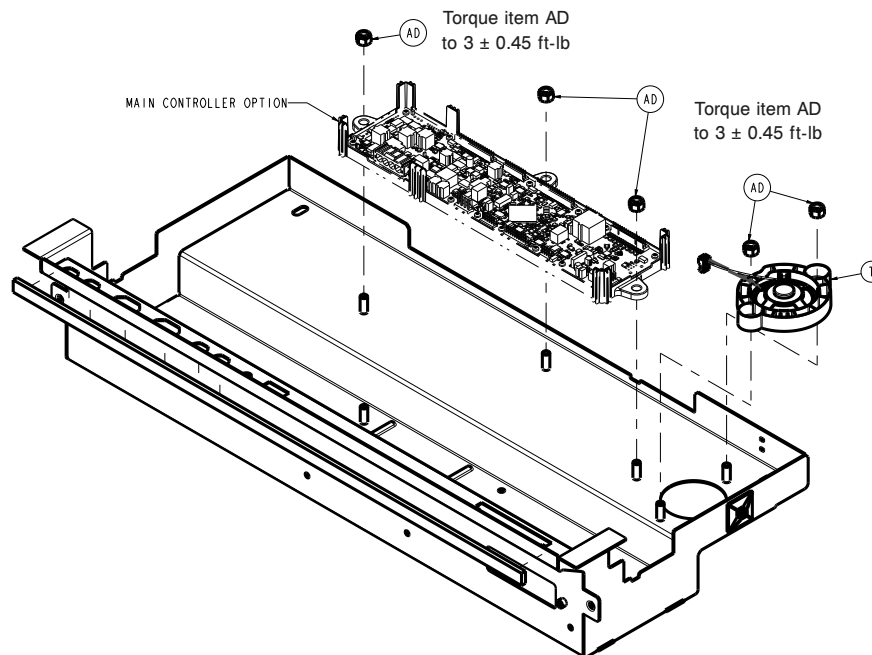

Figure 16 – Replacing the main control board
10. Using a ratchet and a 7/16" socket, remove the three nuts (AD) that secure the main control board to the electronics box assembly (Figure 16). Save the nuts.